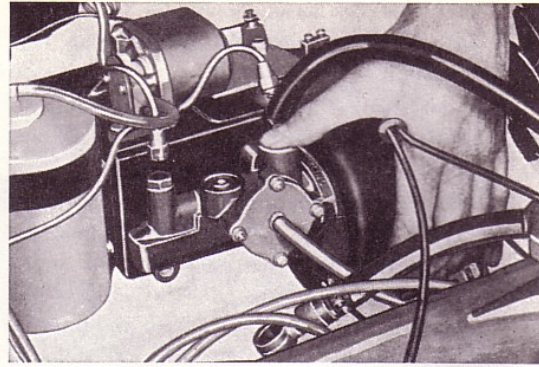

Fig. 44. Testing operation 1.
1. This testing operation must only be carried out on a servo brake cylinder from which all the brake fluid has been emptied. Place the servo brake cylinder in position on its bracket. Plug the hydraulic outlet and fit a hose connection in the hydraulic inlet. The hydraulic connections have a 3/8×24 UNF thread. Connect the vacuum line to the hydraulic inlet and remove the air filter. Start the engine and let it run at idling speed. With the help of a finger, check to see whether there is any air flow through the filter connection and the ordinary vacuum connection, see Fig. 44.